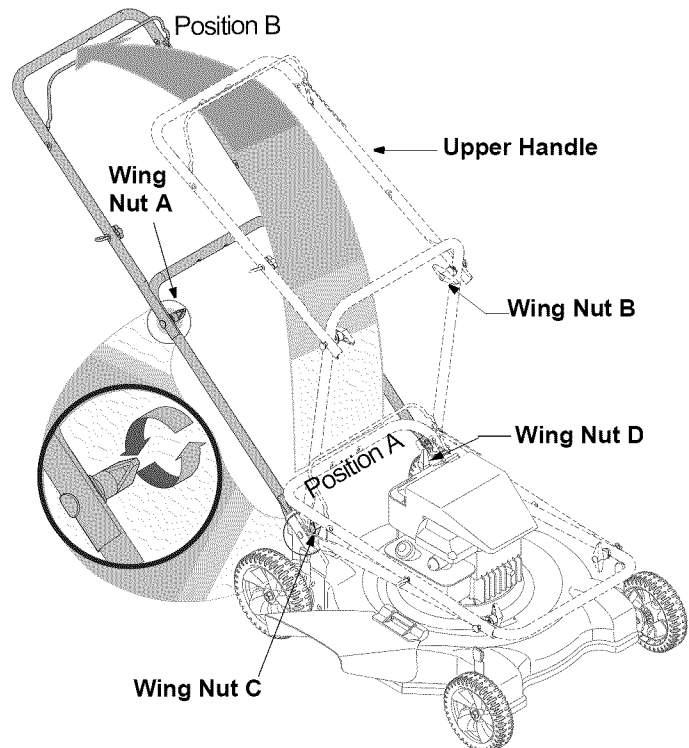

Figure 3
1. Lift the upper handle up from position A and pull it to position B following the arrow in Figure 3. The handle should click into this position.
2. Tighten wing nut A securing the upper handle to the lower handle. Make sure that the carriage bolt is seated properly in the handle. Repeat on the other side with wing nut B. See Figure 3.
3. Tighten wing nuts C and D at the end of the lower handle to secure the handle to the handle bracket. See Figure 3.